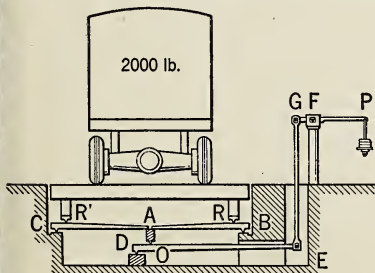

FIG. 288. The platform scales have several compound levers.
7. In the hay scales of Fig. 288, the levers AB and AC are each 8 ft. long; BR and CR' are each 8 in. long; DE is 10 ft., and OD is 1 ft.; GF and PF are 9 and 30 in. long respectively. What weight at P is needed to counterbalance a weight of 2000 lb. on the platform?